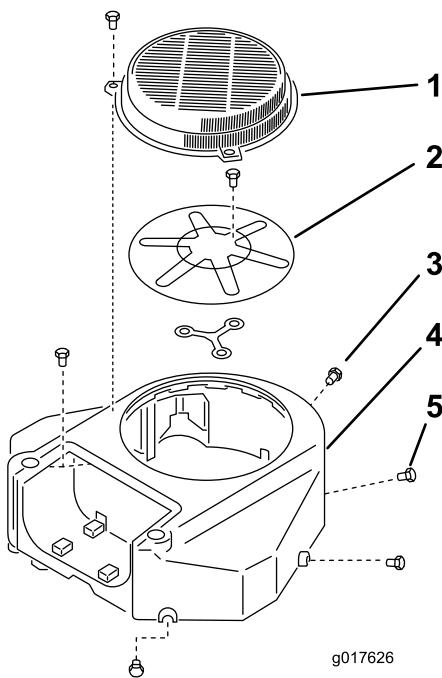

Figure 61
3. Remove the air intake screen and fan housing (Figure 61).
5. Install air intake screen, recoil starter and fan housing (Figure 61).